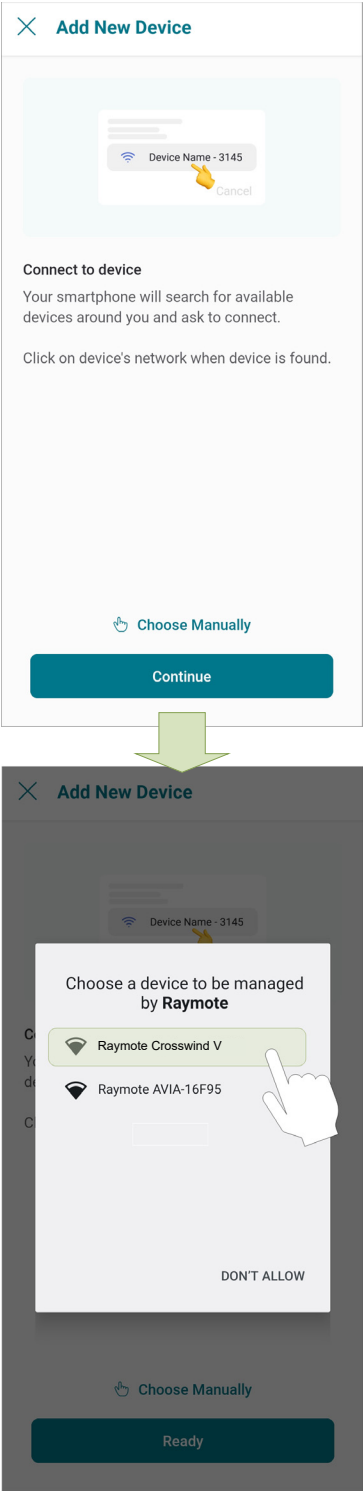

Figure 80. Connect with Android Smart Phone
3. **In Android:** Depending on your configuration, one or more devices will appear on the app. Select the HOTSPOT identifier that matches the unit's display as shown in Figure 80.